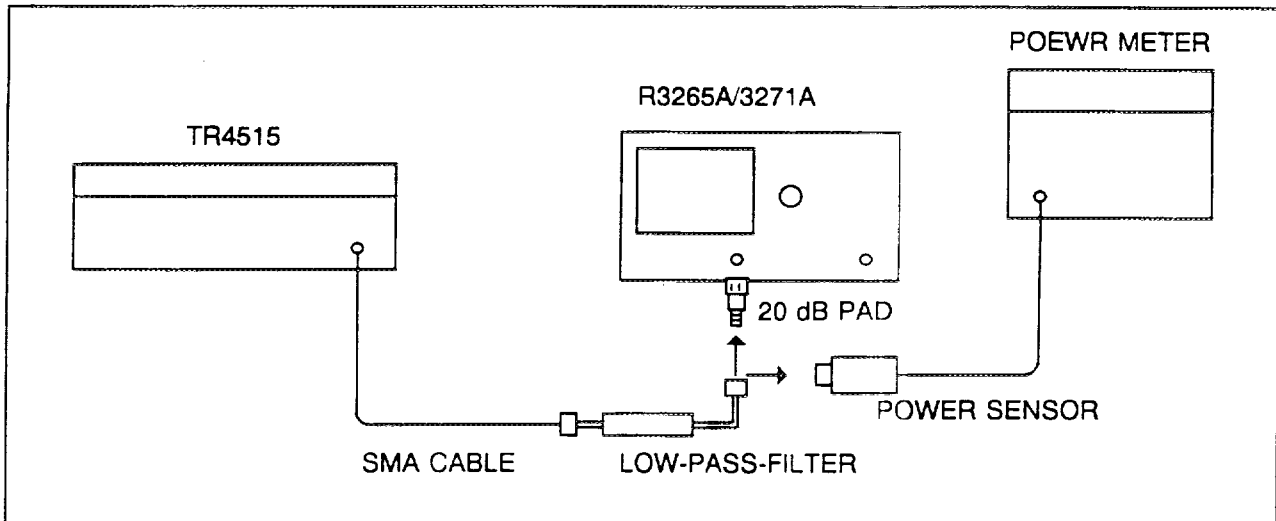

Figure 5-18 Frequency Response Adjustment (2) Setup
- (1) Zero and calibrate the power meter. Rotate and adjust the CAL FACTOR control to set the 421MHz calibration factor of the power sensor.
- (2) Connect the equipment as illustrated in Figure 5-18. However, connect the low-pass filter output to the power sensor.
(3) Press the **PRESET** key of the TR4515, and set the controls as follows: